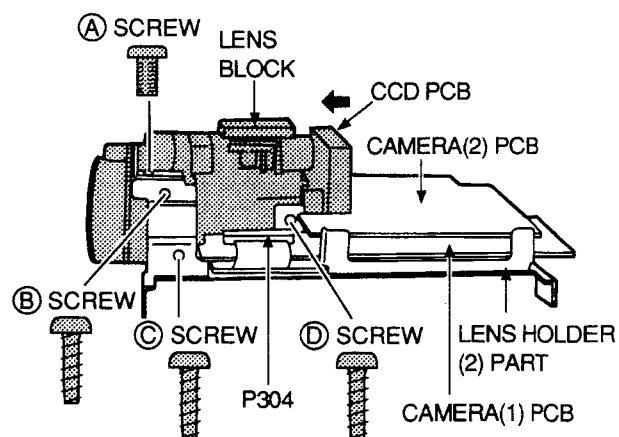

Fig. 3-4
2. Remove the LENS BLOCK retaining (A), (B), (C) and (D) screws as shown in Fig.3-4 and while holding the CAMERA (2) PCB with your right hand, squeeze and pull the CCD PCB shield cover in the direction of the arrow very carefully with your left hand to detach the LENS BLOCK (with CCD PCB attached) from the CAMERA (2) PCB.
3. In case you are removing the CAMERA (1) PCB and CAMERA (2) PCB from the LENS HOLDER (2) part, take care not to scratch any of the chips mounted on the PCB by the chassis's PCB holders (grooves on the chassis).